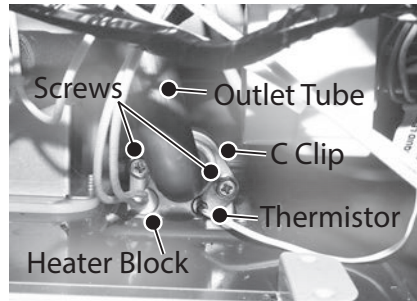

Figure 25 - Removing C clip and screws
- 17** Locate the C clip securing B2 heater block to the hot water outlet piping. Remove the two screws securing C clip. Place screws and C clip aside in a safe place for reinstallation. See Figure 25.